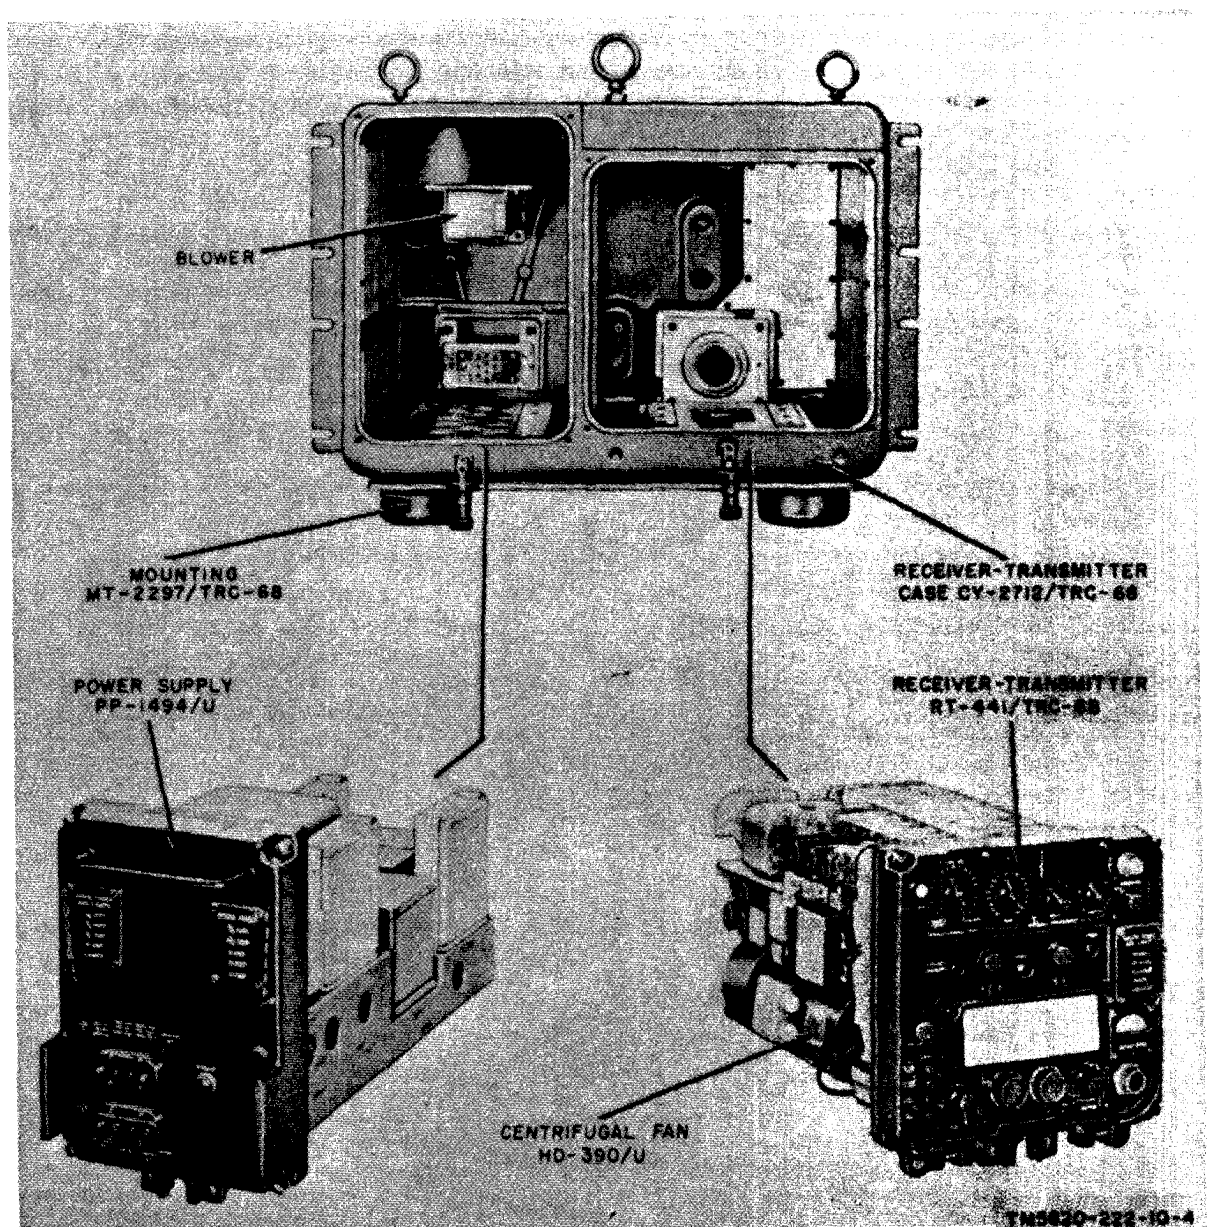

Figure 6. Receiver-Transmitter Group OA-2649/TRC-68 and Mounting MT-2297/TRC-68.
(fig. 6)
f. *Mounting MT-2297/TRC-68 (fig. 6).* The mounting consists of a single plate upon which the AN/TRC-68 case is mounted and four feet which can be fastened to a mounting surface.